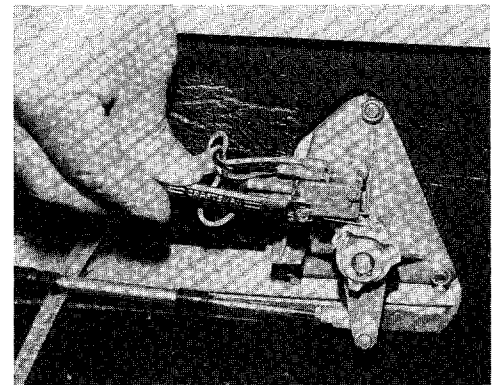

Figure 5-35
4. Remove limit switch from forward/reverse assembly (**Figure 5-35**).